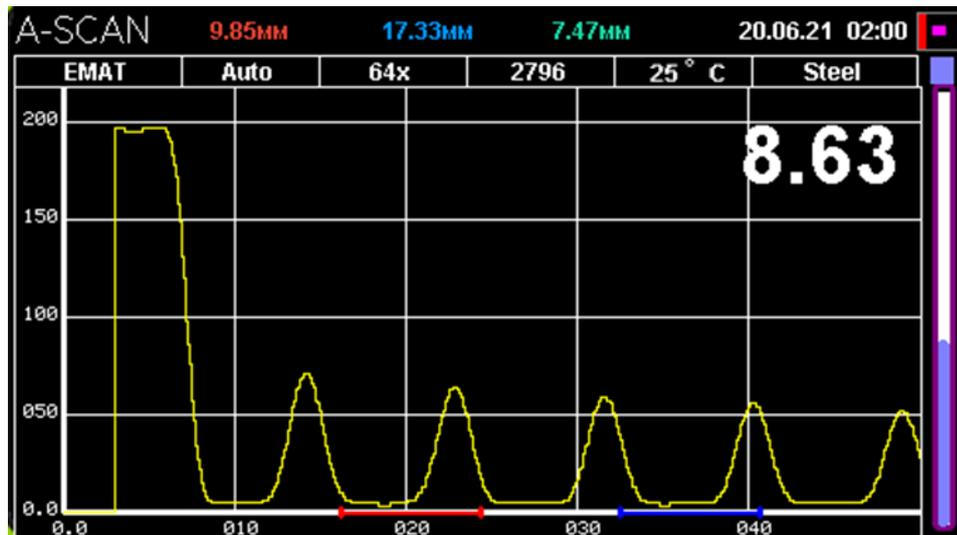
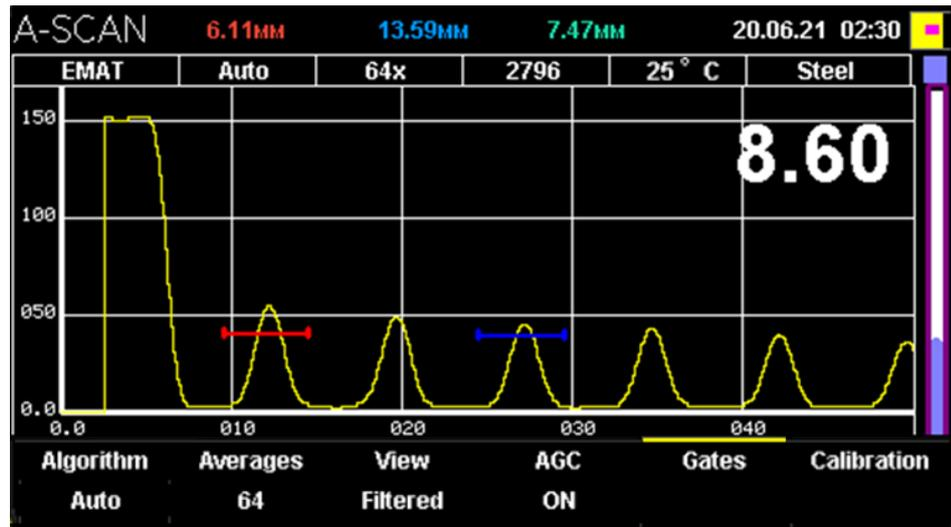

Figure 3.1 – A-scan appearance
Figure 3.4 – Gate information display
3.2.1 A-scan (Figure 3.1, Figure 3.4) is used to inspect the test objects that has complex shape, made by casting, as well as for the test objects prone to severe corrosion.